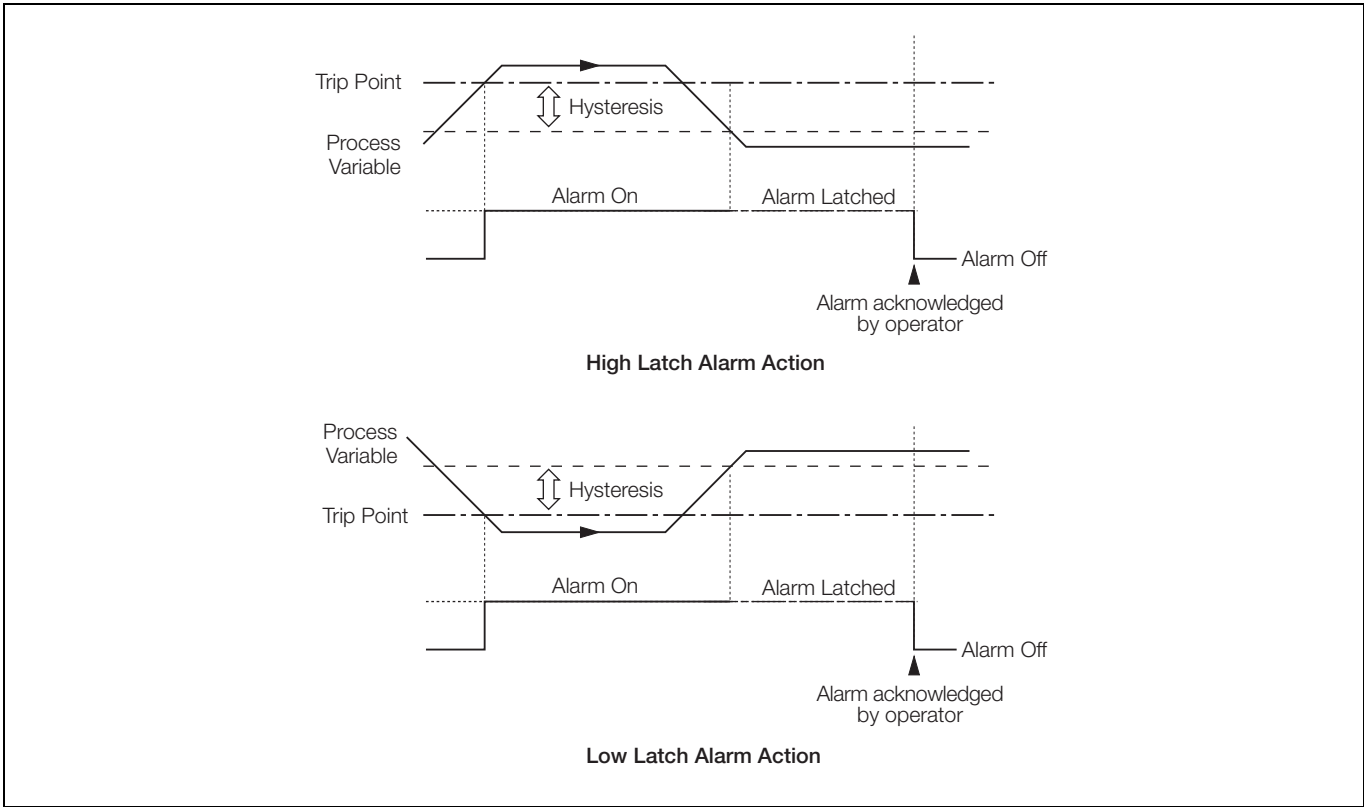

Fig. 4.13 High/Low Latch Alarms
- High/Low latch – see Fig. 4.13, page 78